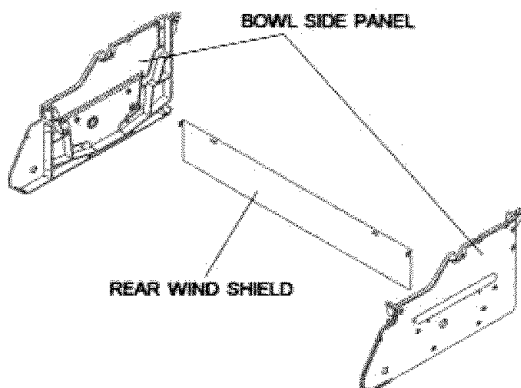

Figure 6
1. Attach the LPG Tank Hook and Tank Holder to the wheel-side of grill as shown in Fig. 6. Align the tapped holes of both parts with the holes on Side Panel. Secure firmly using 1/4"x1/2" Phillips head screws provided.